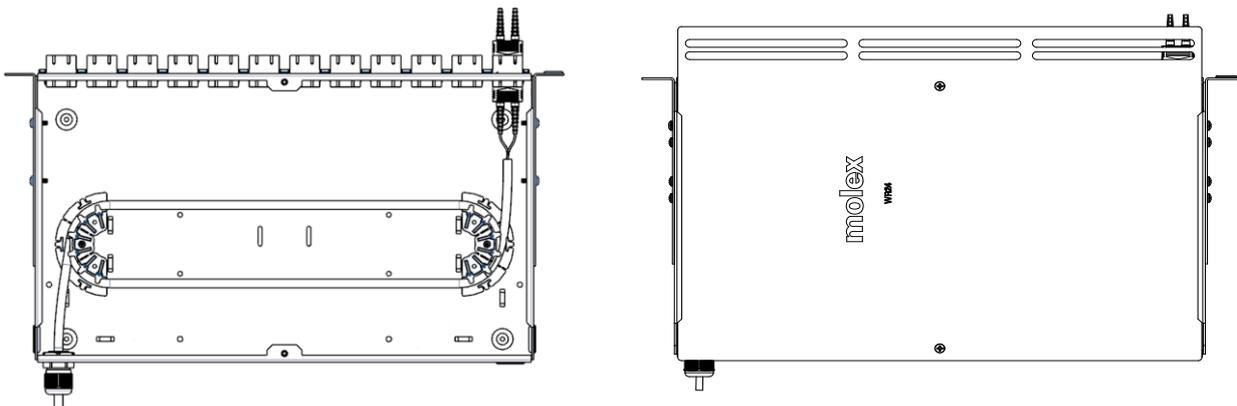

Fig.7
3.7 Cable slack and routing (Fig. 7)